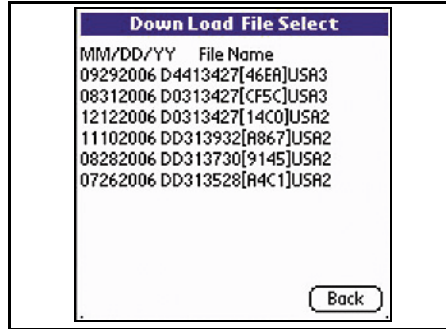

Figure 12 Download Files Screen
3. The **Download File:** Box shows the version of software currently scheduled for download to the DBV. To send a different version, select any open area inside the **Download File:** Box, and a list of available files will appear (See Figure 12). Highlighting the desired software file will automatically transfer the selected file name to the **Download File:** Box.